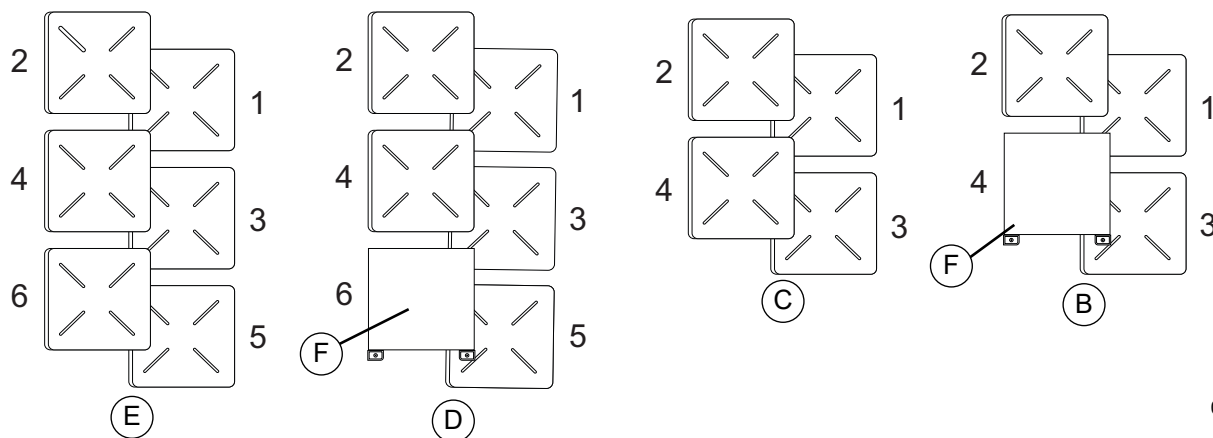

Figure 4-6. Battery Module/Spacer Order of Installation
- See Figure 4-6 for the order of battery module and spacer installation for PWRcell 9 (B), PWRcell 12 (C), PWRcell 15 (D), and PWRcell 17 (E).